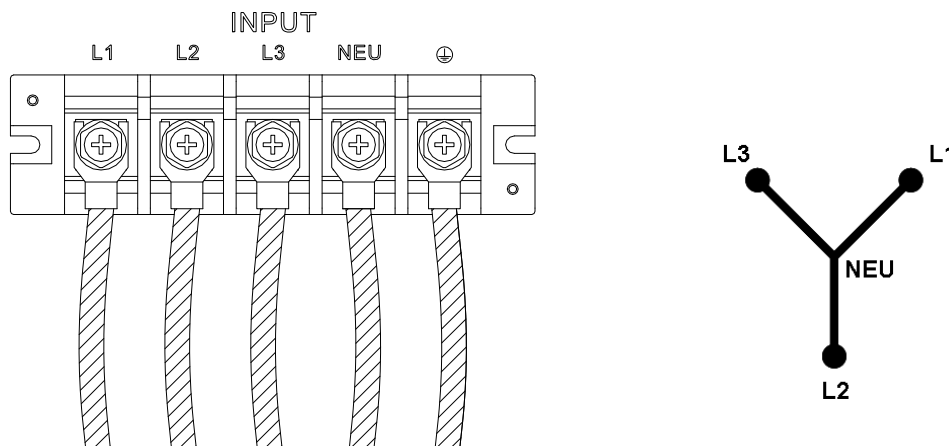

Figure 2-2 3-Phase Power Input Connection (Y Connection)
The input terminal block is located beneath the device's rear panel. The power cord should be rated at least 85°C and the current rating of power line input must be greater than or equal to the maximum current rating of AC Source. The input selector is located on the rear panel (see Figure 2-2.) Adjust the selector according to the power input (Delta or Y) method.
See Figure 2-2 and perform the steps below accordingly:
2. Connect the wire to the AC Source terminal blocks (see Figure 2-2.)